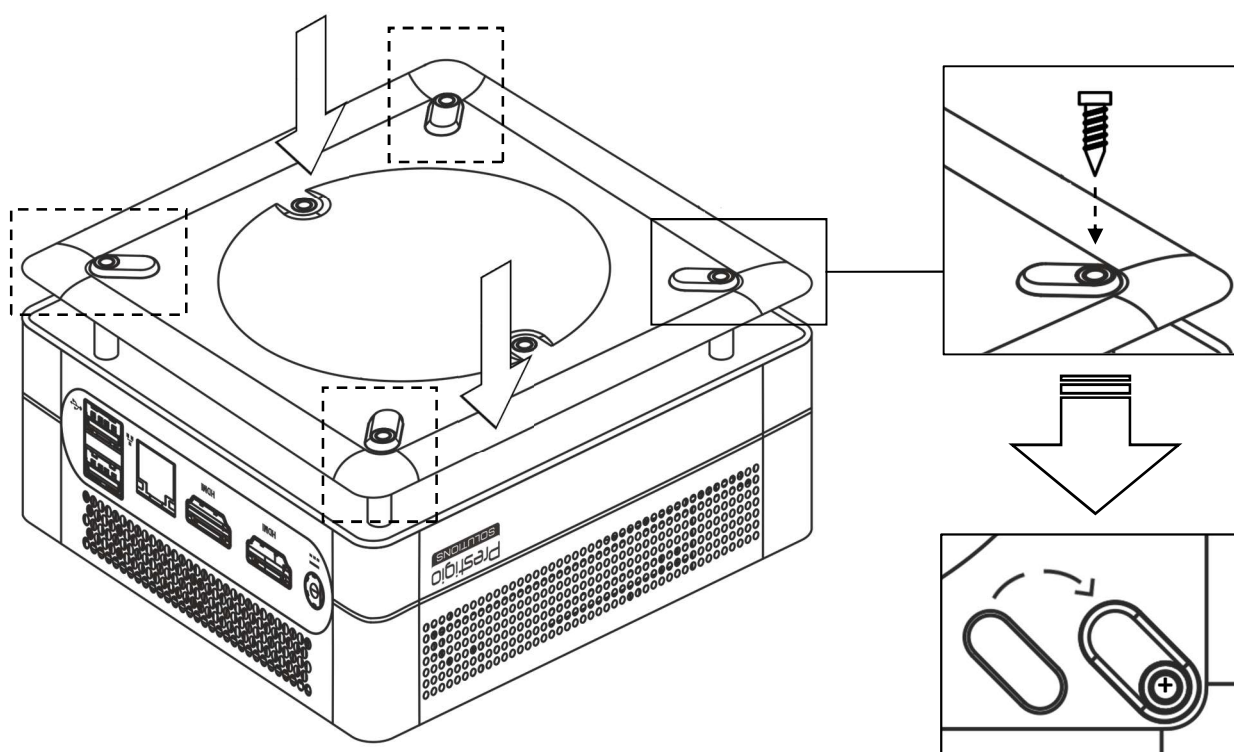

Figure 12 – Installing the bottom cover of the case in place
Step 5. Install the base and the bottom cover of the case in place, secure them with screws as shown in the figures below. Attach the feet over the screws as shown in Figure 12.